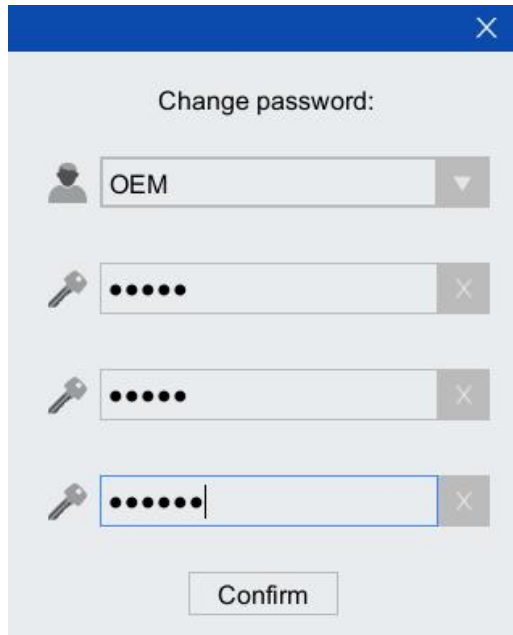
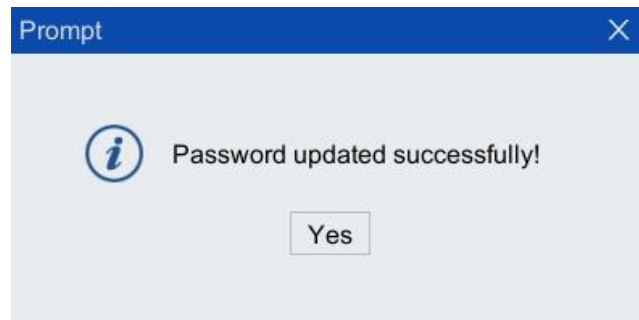

Figure 8-32 Password input complete interface
Figure 8-33 "Modify the password successfully!" "Prompt" box
Step2. The user can first enter the new password according to the prompt in the text box. After the input is completed (refer to Figure 8-32), click the <OK> button, and the "prompt" box of "Modify Password Successfully!" as shown in Figure 8-33 will pop up , The password is changed successfully.